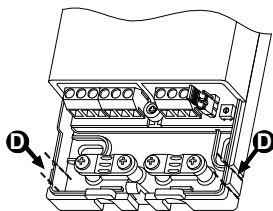

Fig. 4
- Side cable entry:** With suitable pliers, remove the plastic teeth, as indicated by arrows in **D** Fig. 4.